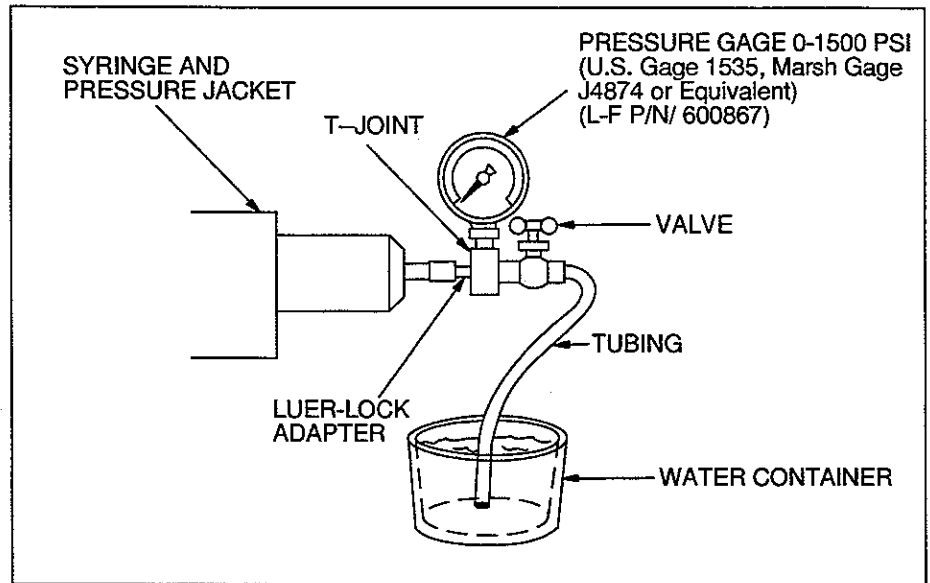

Figure 6-7
5. Install a 150 ml and pressure plate and syringe. Install the Pressure Test Equipment on the 150 ml syringe assembly. Refer to Figure 6-7.